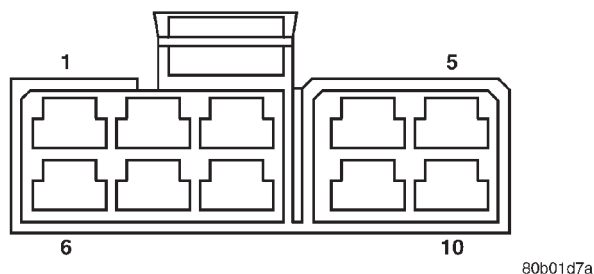

Fig. 1 Switch Harness Connector
- (1) Remove power seat switch from seat.
- (2) Disconnect wire harness connector.
- (3) Check Pin 5 for battery voltage and Pin 1 for ground.
- (4) To test the seat motors, refer to the (Fig. 1), and verify proper seat responses. Using two jumper wires, connect one to a battery supply and the second to a ground. Connect the other ends to the seat wire harness connector as described in the Switch Harness Connector Circuit Test table (Fig. 1).